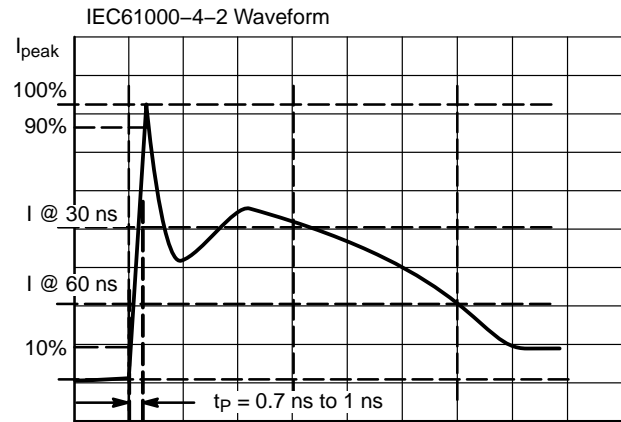

Figure 10. IEC61000-4-2 Spec
- For test procedure see Figure 10 and application note AND8307/D.